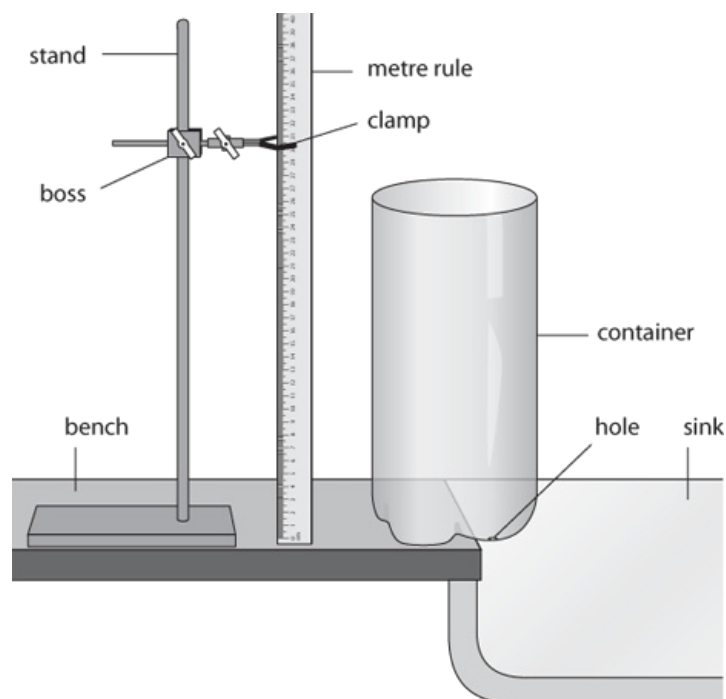

Figure 5.4: Container (with hole) over sink, metre rule.
- 2 Set up the apparatus as shown in Figure 5.4.